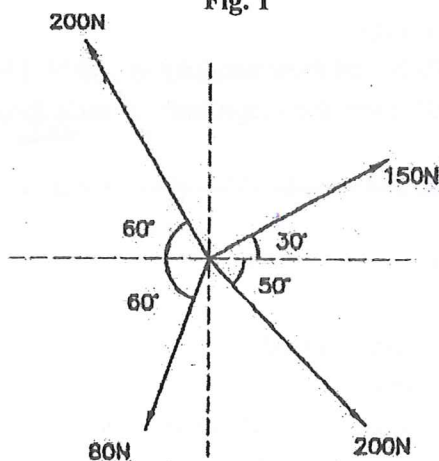

Fig. 3
- (b) Find resultant of the force system shown in Fig. 3. 05